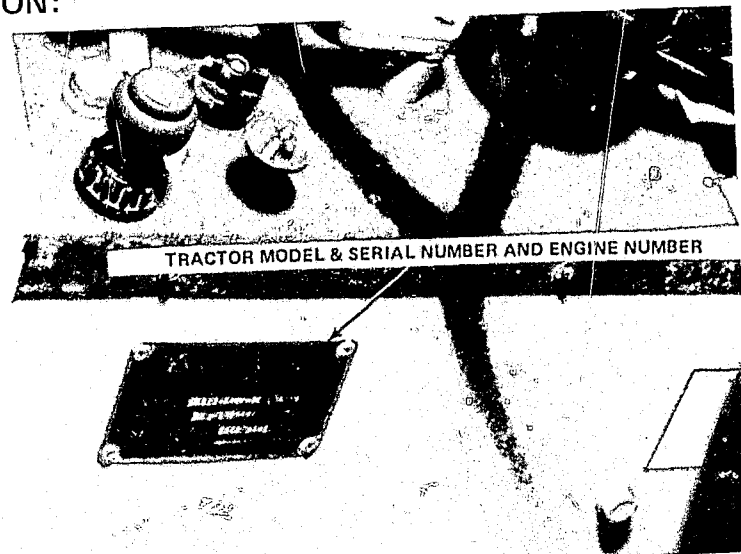

Figure 1
- The model number is also stamped into a metal plate which is riveted to the left side of the main frame to the rear of the engine. (See Figure 1)